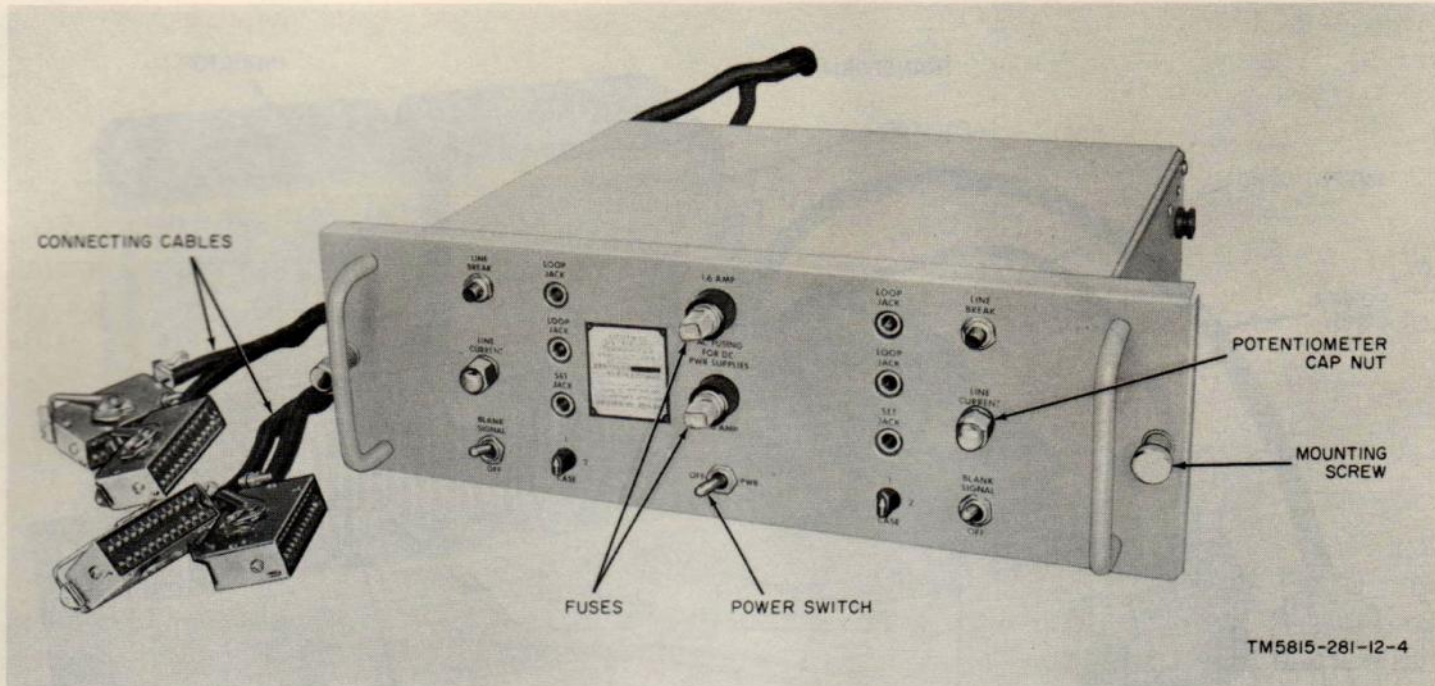
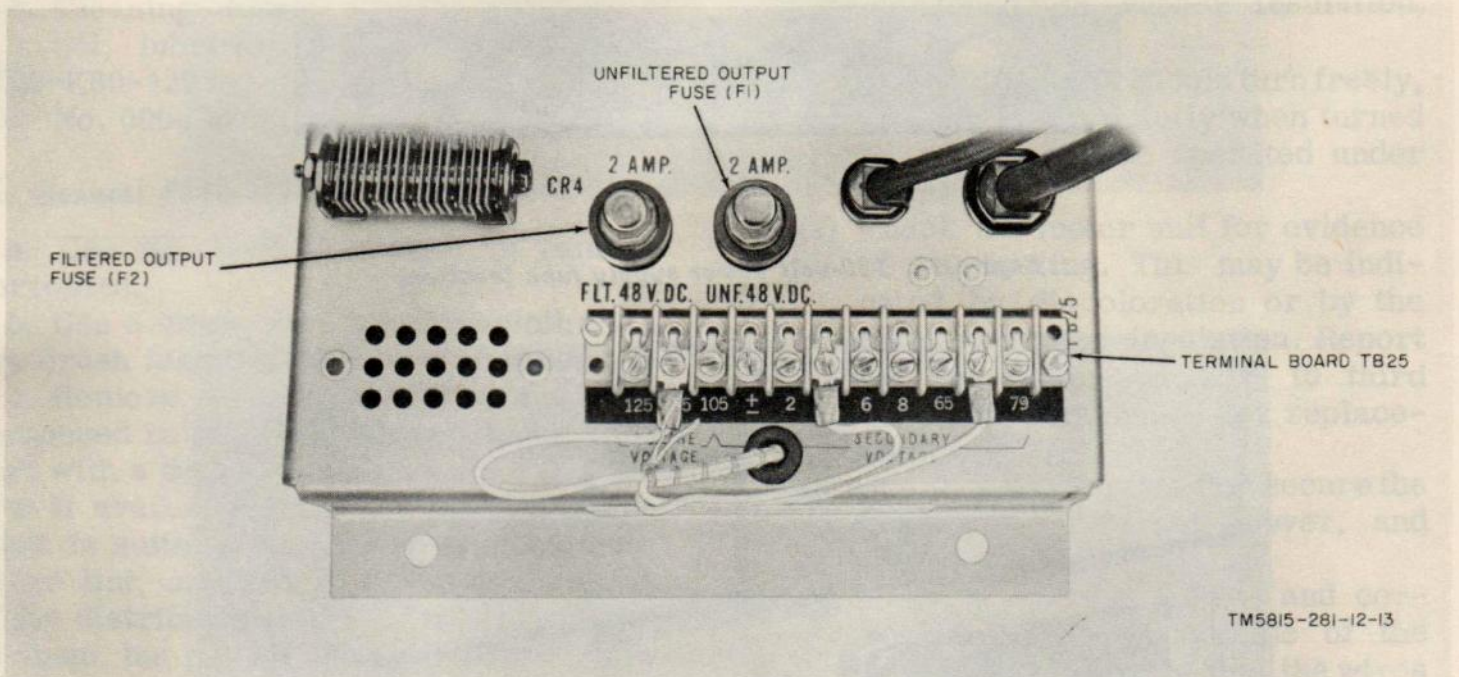

Figure 4. Control, Distributor-Transmitter, Teletypewriter C-3873/GGC-9.
Figure 13. 48-volt power supply fuse locations.
(fig. 4)
- (2) Set the control base power switch (fig. 4) to OFF.
- (3) Use a voltmeter and check the voltage at the ac source.
- (4) Remove the cover from terminal board TB25 (fig. 13) on the 48-volt power supply. Check to see that the white ac line voltage on the terminal board is connected to the terminal (105, 115, or 125) that corresponds most closely to the voltage reading obtained as
- (5) Insert the plug of the ac input cable on the control base (fig. 10) into the ac power source. Set the control base power switch at PWR (fig. 4), to energize the 48-volt power supply.
- (6) Disconnect jack J29 from plug P29. Check the direct-current (dc) output across pins F and G of plug P29. The correct no-load output reading is 54 volts. If adjustment is necessary, turn the power switch on the control base to OFF before adjusting the output ((7) and (8) below).
- (7) The dc output is adjustable. *Coarse* adjustments are made by moving the yellow lead connected to 79, 72,